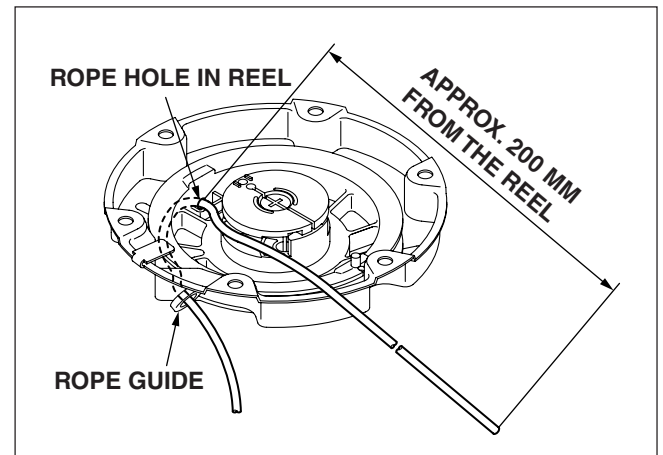

Fig. 13-7
(4) Tension the reel spring
-2 Fix the reel so that the rope hole in the reel is aligned with the rope guide. (Fig. 13-7)
- 1 Pass the rope end through the rope guide and the rope hole of the reel and pull through approximately 20 cm out of the reel. (Fig. 13-7)